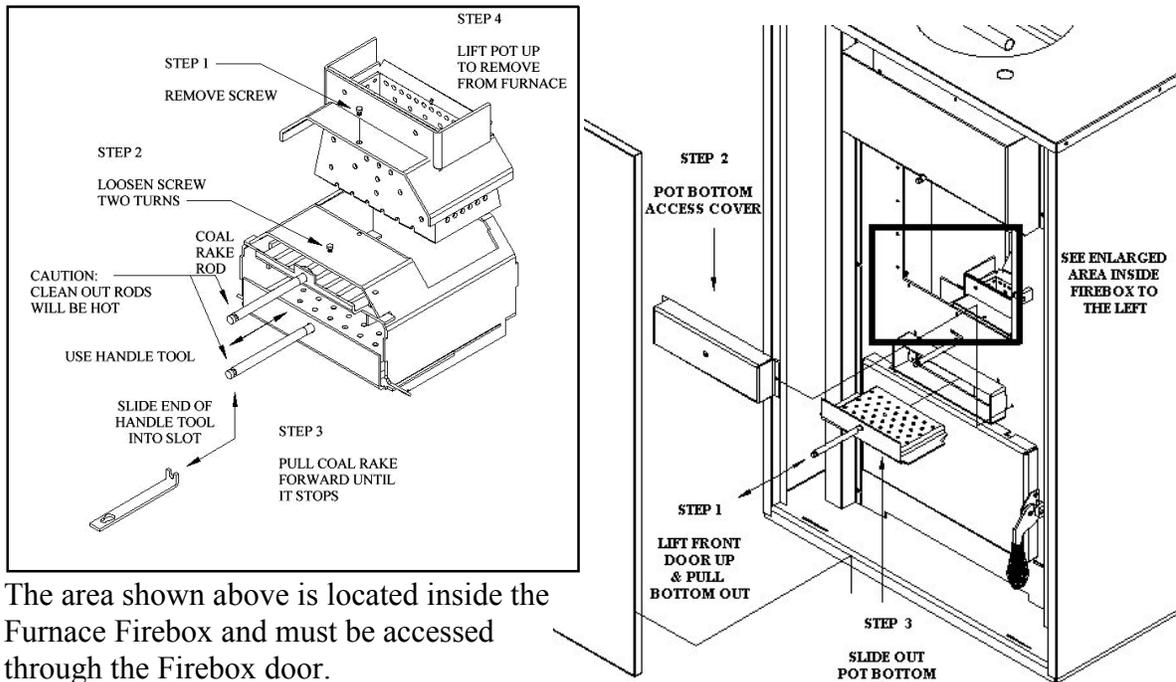

Figure 20
1. **The coal Rake.** The first step is to push the coal rake in and shave the coals off the top of the clinker. Once this is done open the door and add a ¼ cup of pellets on top of the coals (See figure 18). To push in the Coal rake, use the Rod Handle tool shown in figure 20 on page 41.
3. **The slide out bottom.** (See figure 19) Now you are ready to drop the clinker from the burn pot. Pull the bottom out in one quick motion and let the clinker drop into the ash pan. Quickly push the bottom in again. To pull out the slide bottom use the Rod Handle tool shown in figure 20 on page 41.
6. Cleaning the Heat exchange tubes. Now you can pull the tube scraper back and forth a couple of times to keep the tubes clean. If the Tube Scraper feels sticky and difficult to move, check for the presence of creosote on the tubes. If creosote is present a damper adjustment may be needed or the Furnace has become plugged and needs a thorough cleaning. Call Dealer for assistance. To pull the tube scraper back and forth use the Rod Handle tool shown in Fig. 20 on page 41.
2. **Burnpot and Slide-Out Bottom.** Clean burn grate holes whenever needed. Remove the Burnpot and use a small metal object (Nail, Drill Bit, etc) to clean out plugged holes. (See Figure 20 below)